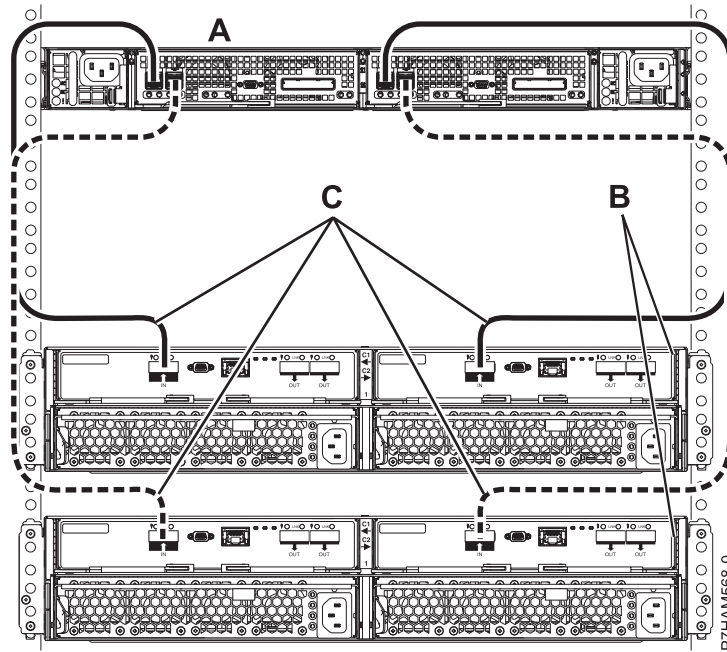

Figure 40. Mode 1 connection of two 5887 disk drive enclosures by using EX cables to a PCIe storage enclosure
14. Perform the mode 1 connection of two 5887 disk drive enclosures (**B**) by using EX cables (**C**) to a PCIe storage enclosure with support for SAS disk drawers (**A**) as shown in Figure 40.
- Both EX cables (**C**) from the same 5887 disk drive enclosure must be attached to the same numbered SAS port on the PCIe storage enclosure as shown in Figure 40.